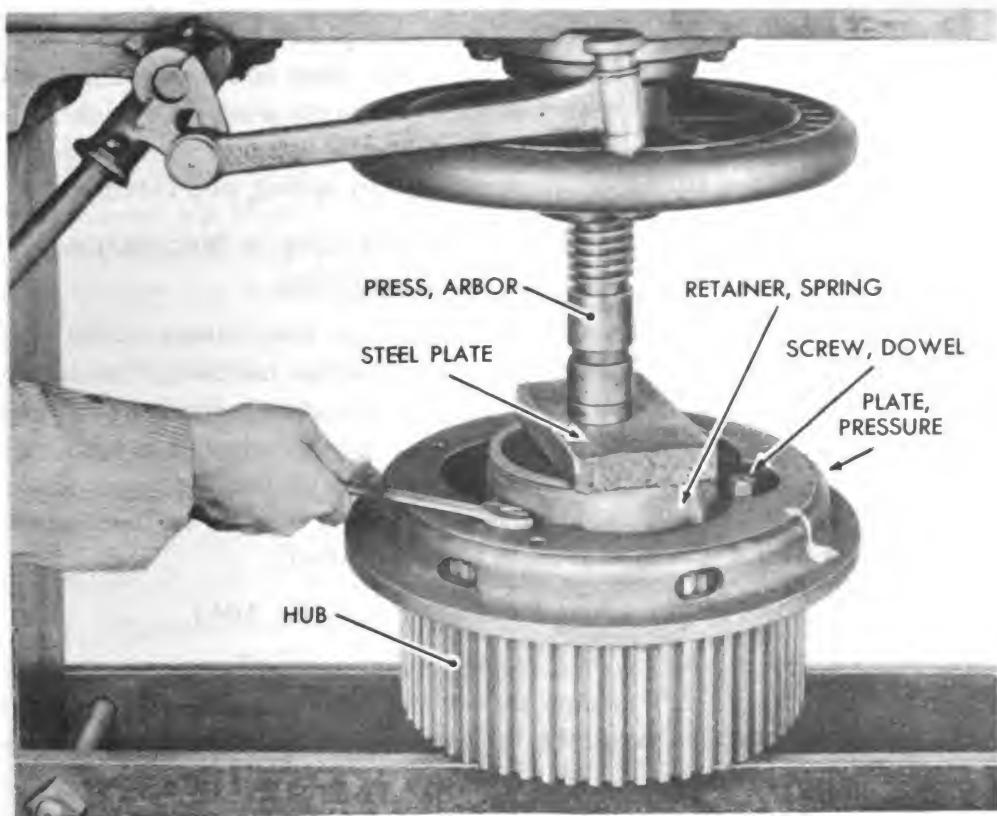

Figure 103 — Compressing Steering Clutch Spring and Removal of Retainer
(12) COMPRESS STEERING CLUTCH SPRING (fig. 103).
b. Procedure.(1) **INSTALL STEERING CLUTCH SPRING (fig. 103).**